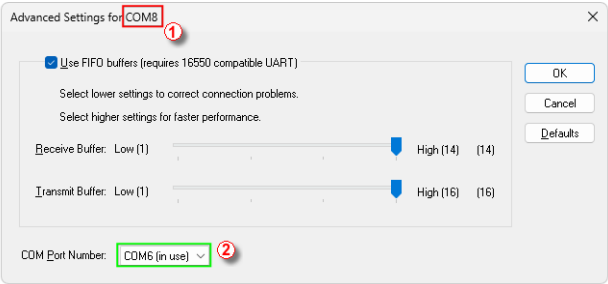

Fig. 12: Advanced Settings
- **Fig. 12** on pg. 11. displays the *Advanced Settings* for specific **COM** port. ① To change **COM** port from the default, choose a **COM** port at ② using the drop-down list.